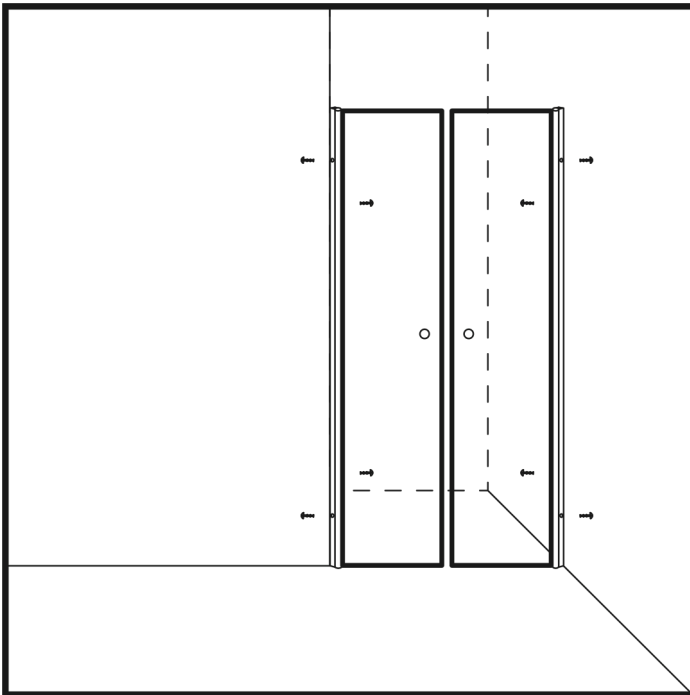

Figure 6
13. Mark the screw mounting positions on the profile from both inside and outside the shower. Measure and mark one side of the profile about 10 cm from the top and bottom, and the other side at about 20 cm. (Figure 6)